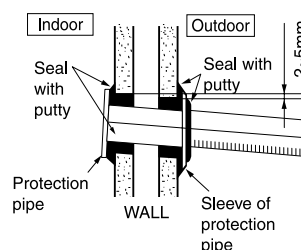

Fig. 4-1
- Arrange the penetrating part of the wall presentably with the bushing for refrigerating pipes and sealer which is belonging to the pipe set as shown in Figs. 4-1 and 4-2.